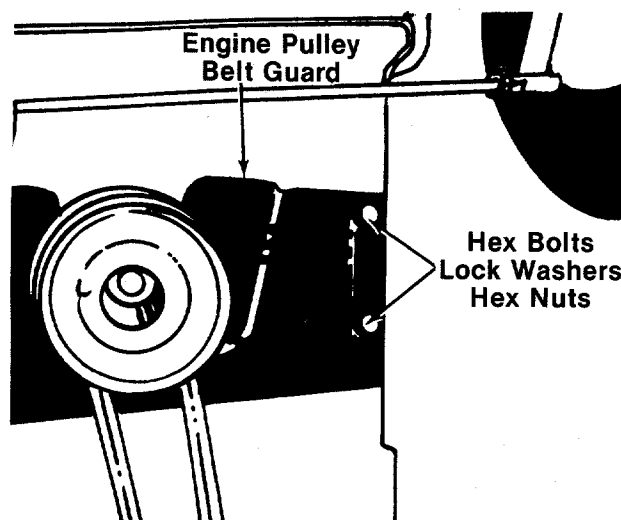

FIGURE 23.
4. Remove the two bolts, lock washers and nuts on each side of the frame which hold the engine pulley belt guard to the frame. See figure 23.